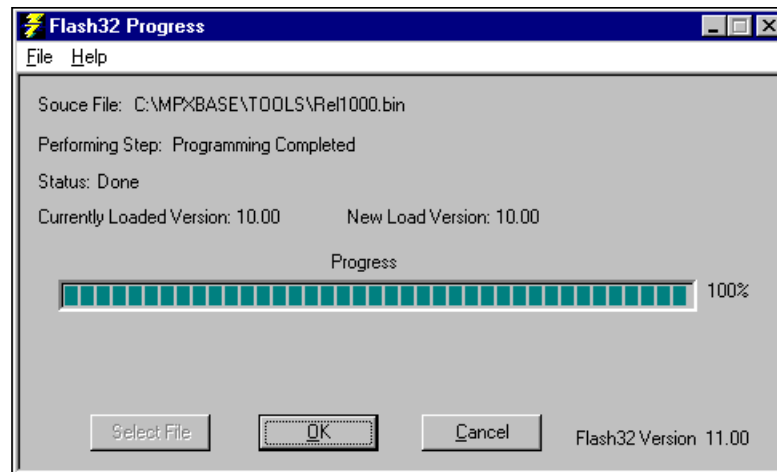

Figure 278. Flash32 Progress dialog box (Progress bar)
5. Tab to the Program button and press **Enter**. As the installation runs, the Progress indicator band displays the progress, as shown in Figure 278.